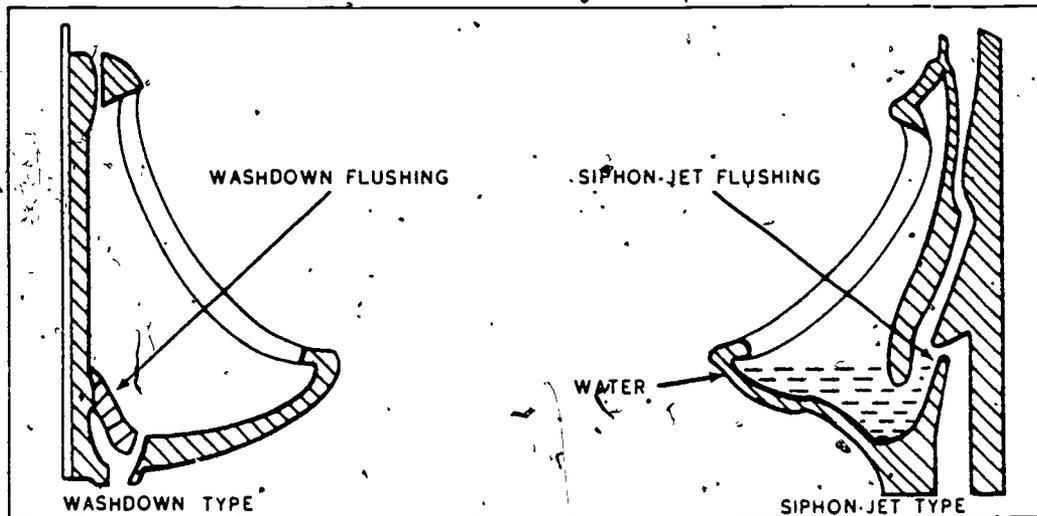

Figure 3-4. Types of wall-hung urinals
**Urinal Drainage and Vent Methods.** The waste and vent lines for urinals are very similar in design and construction to those of lavatories. The type of urinal to be installed determines the design of the waste and vent systems. There are four basic types of urinals: the trough, the stall, the wall-hung, and the pedestal. The trough and the stall type of urinals are not approved for new Air Force construction or maintenance replacement. As a result, you will be primarily concerned with the installation and maintenance of the wall-hung and pedestal type urinals. These urinals operate on one of two types of flushing operations, and this in turn determines the method recommended for venting the fixture trap. Wall-hung and pedestal type urinals have either a washdown or a siphon-jet flushing action. The washdown type usually has an external trap. Wall-hung and pedestal type urinals have traps built into the fixture. A cross section of both types of urinals is shown in figure 3-4. In the washdown type, the bowl does not carry a body of water to dilute the urine which remains in the bowl unless it is flushed each time after it is used. Since the urine is not always washed out of the bowl, it gives off an offensive odor. This condition is avoided considerably in the siphon-jet type, because there is at all times a body of water in the bowl so that the urine is diluted as soon as it enters the bowl.